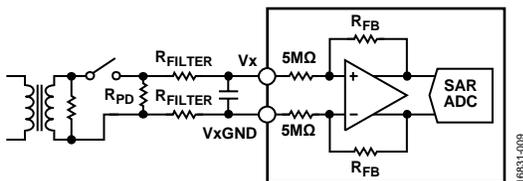

Figure 3. Analog Front End with  $R_{PD}$
Traditionally, having a pull-down resistor ( $R_{PD}$ ) in parallel with the sensor (current transformer shown in Figure 3) allows users to detect when the sensor disconnects, that is if an ADC output code lower than 20 LSBs repeats for a number of samples (N).